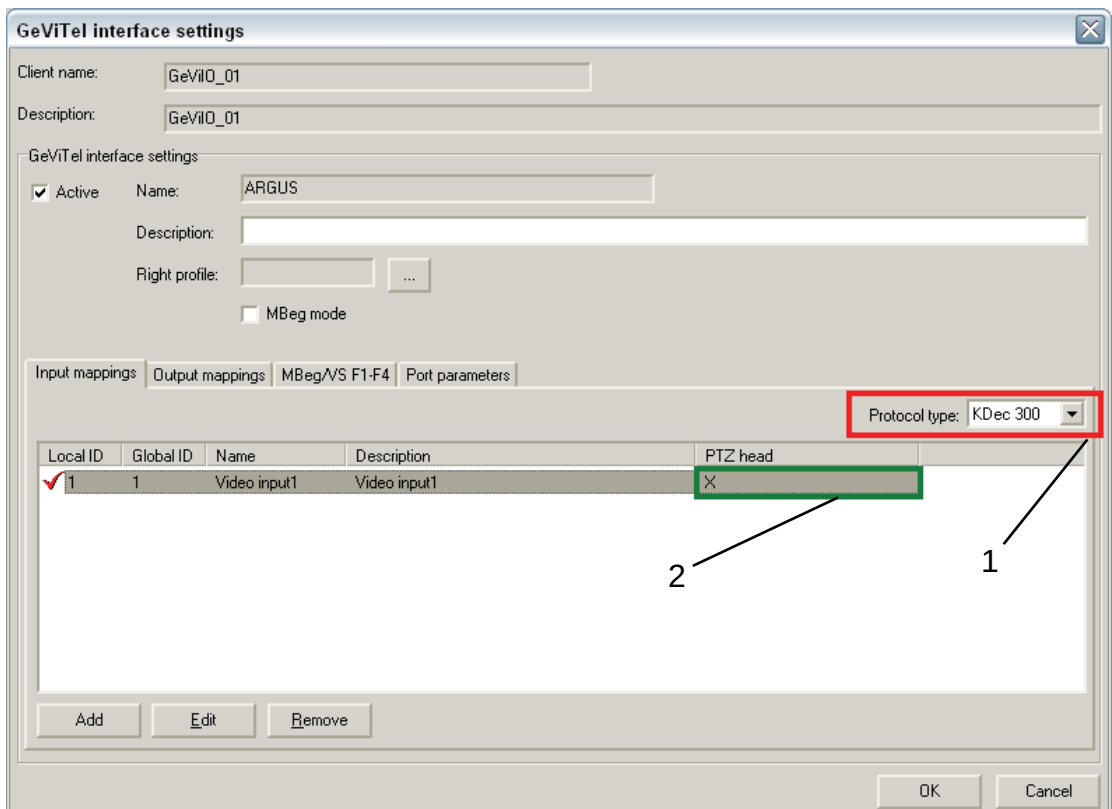

Figure 8-8: Interface parameters
- Now select "Edit" to configure the details of the interface. The configuration dialog box will be opened as in **figure 8-8**.
- Take care that the protocol type is set to "KDec-300" (figure 8-8, see 1) and the option "Pan/tilt head" (figure 8-8, see 2) is set for the video input.